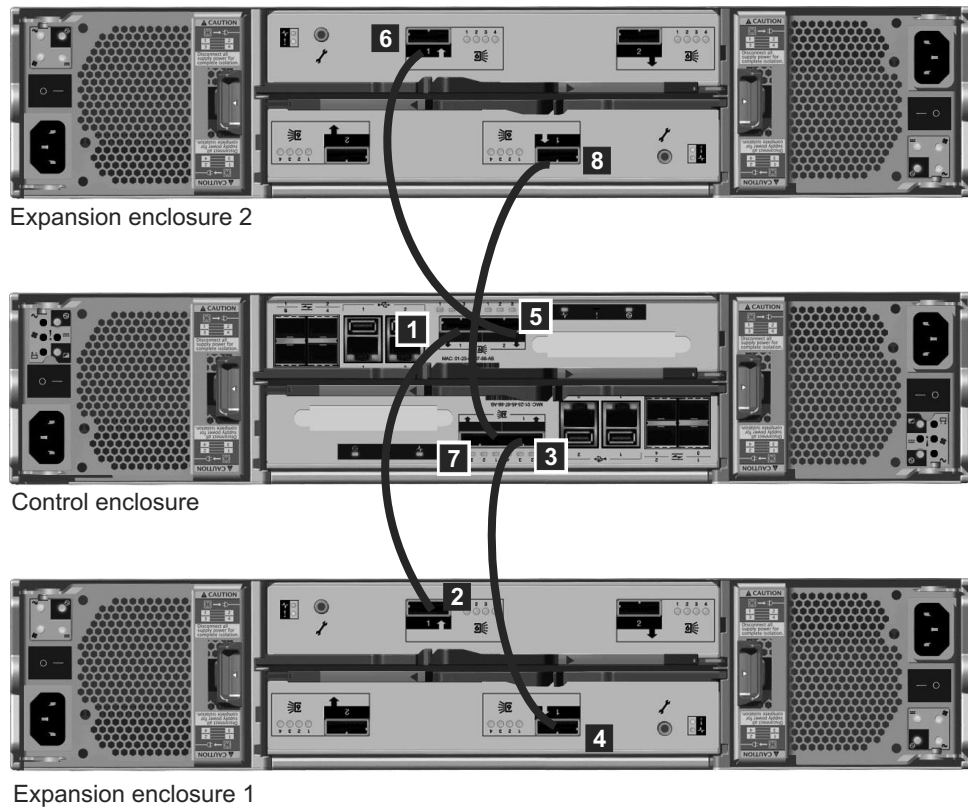

Figure 33. Adding a second expansion enclosure
- Attach the SAS cables from the control enclosure to the second expansion enclosure as shown in Figure 33 on page 30. The second expansion enclosure is above the control enclosure.